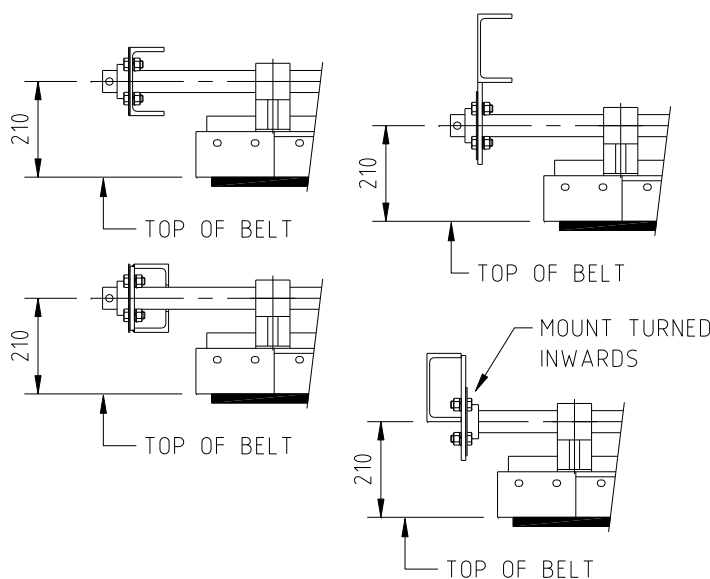

Figure 2 - Typical Mount and Stringer Arrangements
- Step 3** Install the front support pipe and mounts at the above point. For belts less than 1500 wide, ensure that the mount with the locking collar attached is located on the access and service side of the conveyor. Installation may involve cutting holes or attaching brackets to conveyor structure (see typical mount arrangements **Figure 2** in previous section, and cutout details below). Seek site Engineer’s approval before modifying conveyor structure.